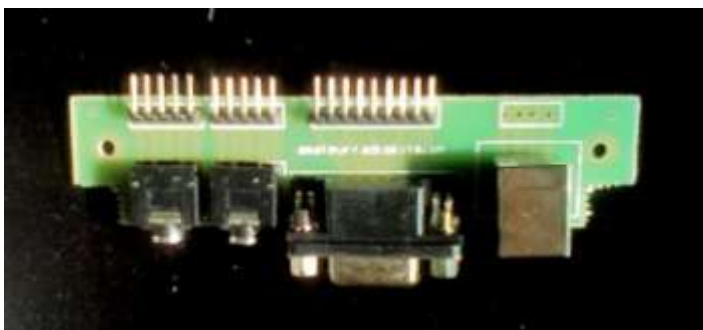

**Figure 2: The Assembled RX/TX Indicator Board**
2. The resistors supplied were 2.2k; the packing list said 1k, but the on-line documentation advised that anything between 1k and 10k works, depending on how bright you want the LED to be. By my calculations, the resistors supplied will provide about 5mA to the LED. The resistors must be mounted vertically. See figure 2.
5. The LED is mounted off the end of the PC board, so its leads must be bent 90°. See figure 2.